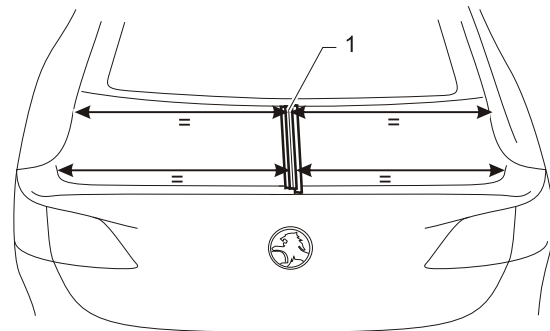

FIGURE 2
1. Apply masking tape (1) down the centre of the decklid.
2. Use a tape measure to find and mark the centre of the decklid. Draw a line (1) down the centre of the decklid. Refer to figure 2.